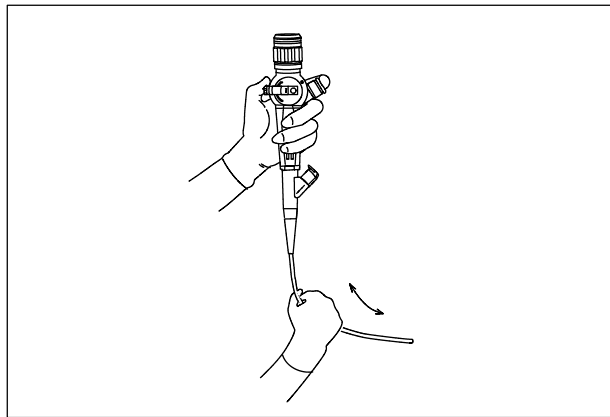

Figure 3.2
4. Carefully run your fingertips over the entire length of the insertion tube. Inspect for any protruding objects or other irregularities (see Figure 3.2).